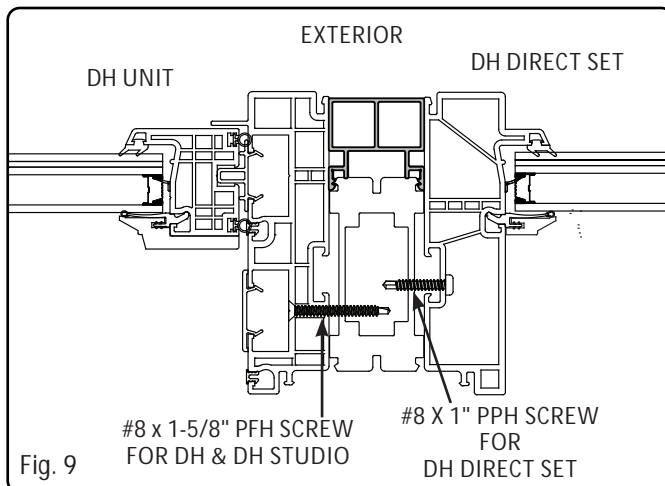

Fig. 9
These techniques are general guidelines only, and may not be appropriate for all performance requirements. Kolbe recommends three installation types. Choose the best installation method for your situation. 2.0 Double Hung Direct Sets are shown throughout the instructions for simplification. To see the differences between a double hung and casement direct set frame, (Fig. 9 on page 4).
- *Mull Option 2 Only:* Place the unit(s) tight up against the impact mull reinforcement in the rough opening. If the unit is not tight to the mull reinforcement the exterior and interior mull covers will not fit. Secure the unit(s) to the impact mull reinforcement as shown in (Fig. 9). Place screws 6" from each corner and 12" on center thereafter through the frame and into the aluminum reinforcement mull. Screw size is determined by unit type, (Fig. 9) for correct screw size.